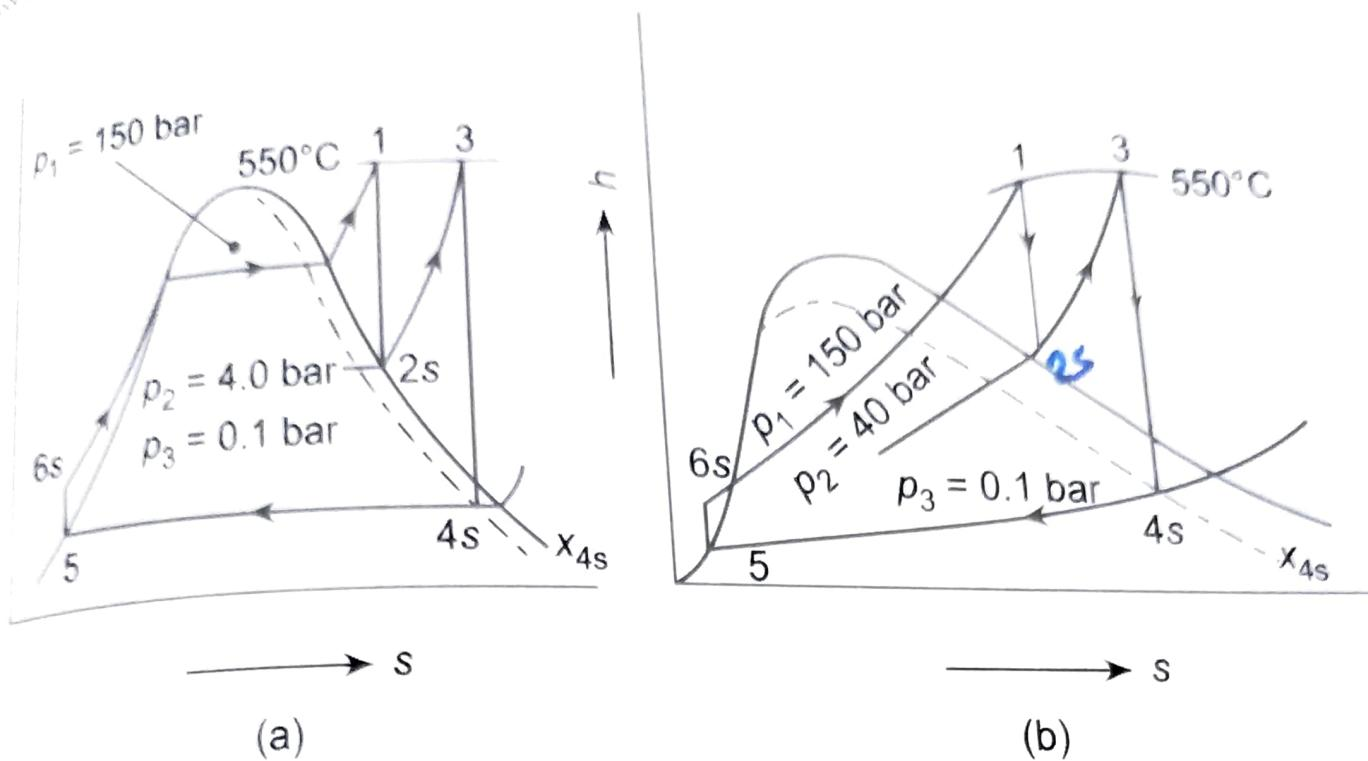

Fig. 12.44
**Solution** The property values at different states (Fig. 12.44) are read from the Mollier chart.